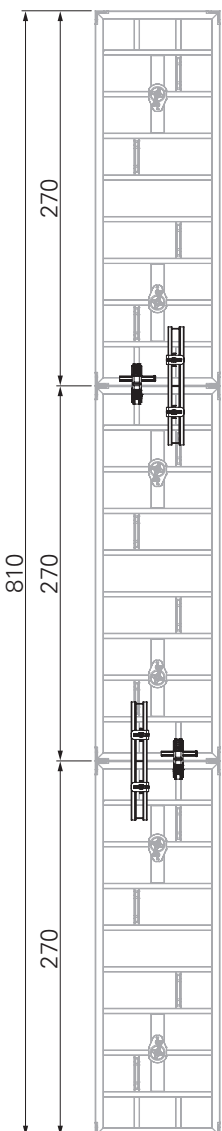
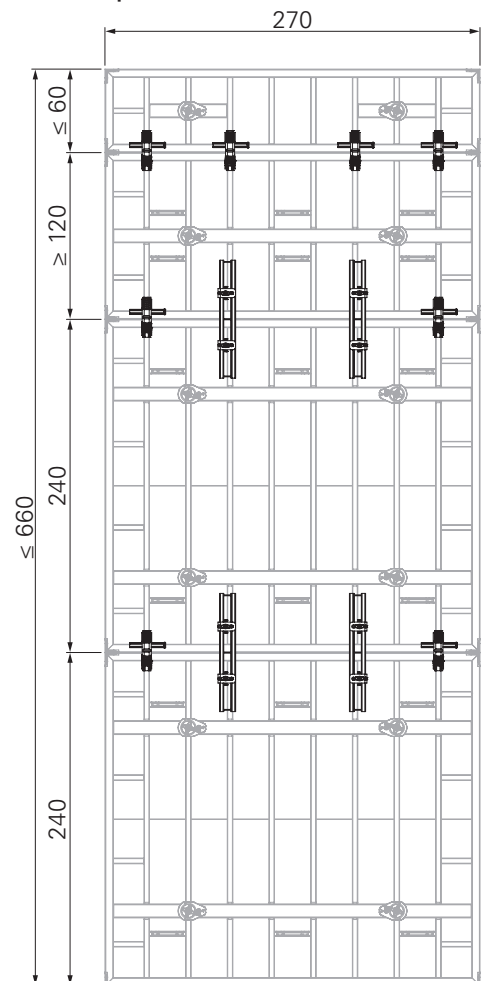

Fig. B9.03a
Fig. B9.03c
- Examples: (Fig. B9.03a – Fig. B9.03c)
- If a Panel MX-2 H = 30 cm is added horizontally, the tie can be dispensed with for this panel. The unused tie point must be sealed with a Plug MXM15 Ø18.3mm (71).